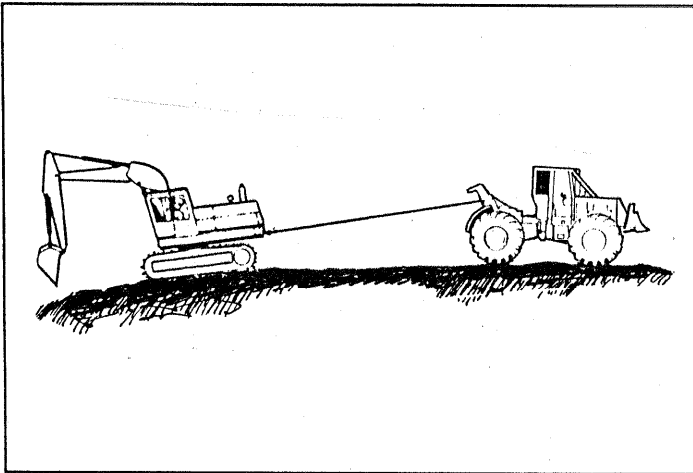

Fig. 8 Moving a Disabled Vehicle (Step B)
B. A skidder equipped with a winch can be used to pull another vehicle from mud or other area where it cannot move using only the drive wheels or tracks. See Fig. 8. Use the following procedure: